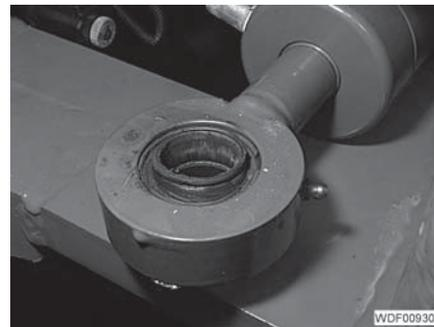

Fig. 130 Steering cylinder support surface
- Place the steering cylinder on the rear carriage (Fig. 130).